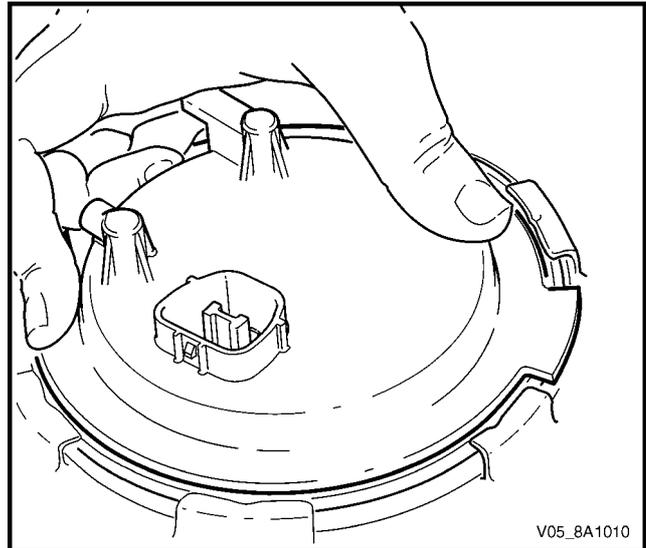

Figure 8A1 – 199
- 7 Using tool No. J45722 (1) and a half-inch breaker bar (2), install the modular fuel pump and sender assembly cover retainer lock ring (3) by turning it clockwise, refer to Figure 8A1 – 184.